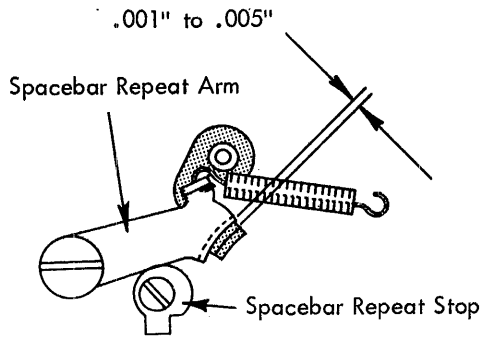

FIGURE 190. Spacebar Repeat Stop (Early Style)
- a. Early Style - Adjust the stop to obtain .001" to .005" clearance between the spacebar repeat arm and the spacebar shaft at the time a single operation occurs (Fig. 190).